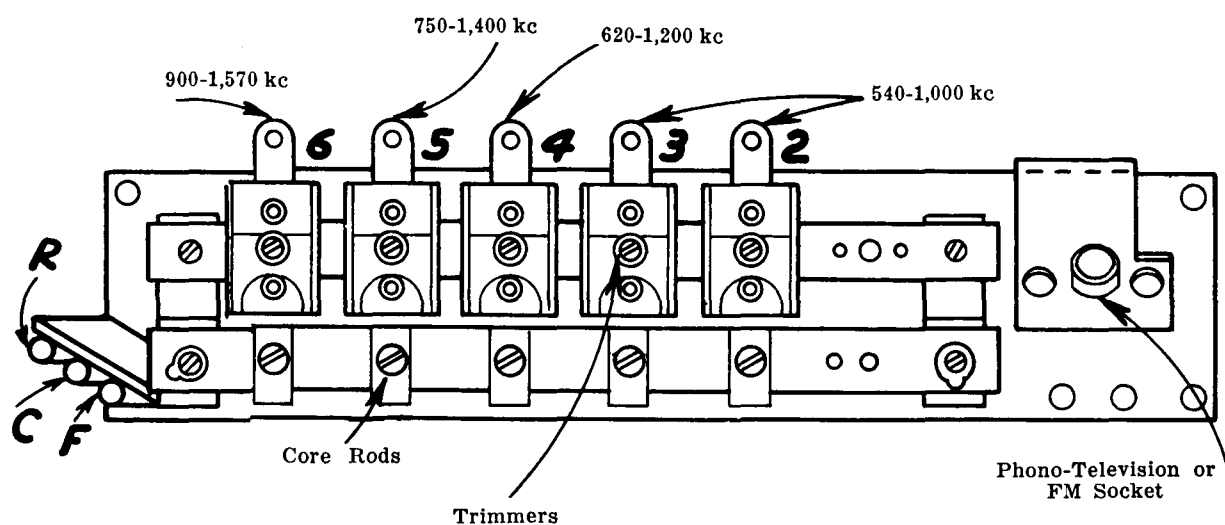

Fig. 4
- (1) Turn "Range selector" to "A" position and manually tune in the first station, say 560 k.c.
- (2) Turn "Range selector" to "P.B." position, press button No. 2 located second from left on front panel.
- (3) Referring to Figure 4, adjust core and trimmer No. 2 for a peak at 560 k.c.
- (4) Proceed to adjust the other four stations in order of frequency, as outlined above.